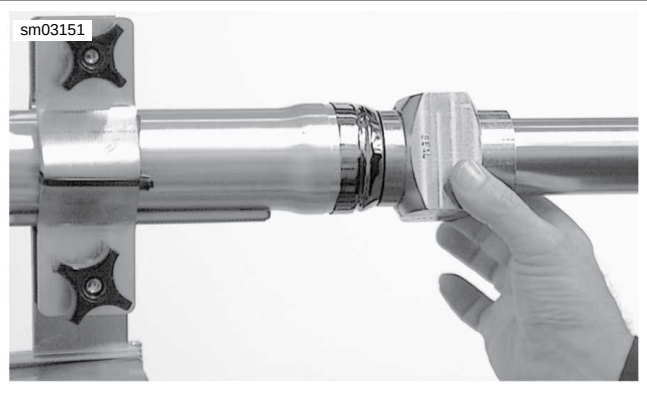

Figure 2-194. Install Chrome Dust Cover
6. See Figure 2-194. Remove FORK SEAL DRIVER and reverse tool to short side of tool to prepare to install chrome dust cover. Rotate slider cover to match any removal burrs in slider and tap chrome dust cover into place.